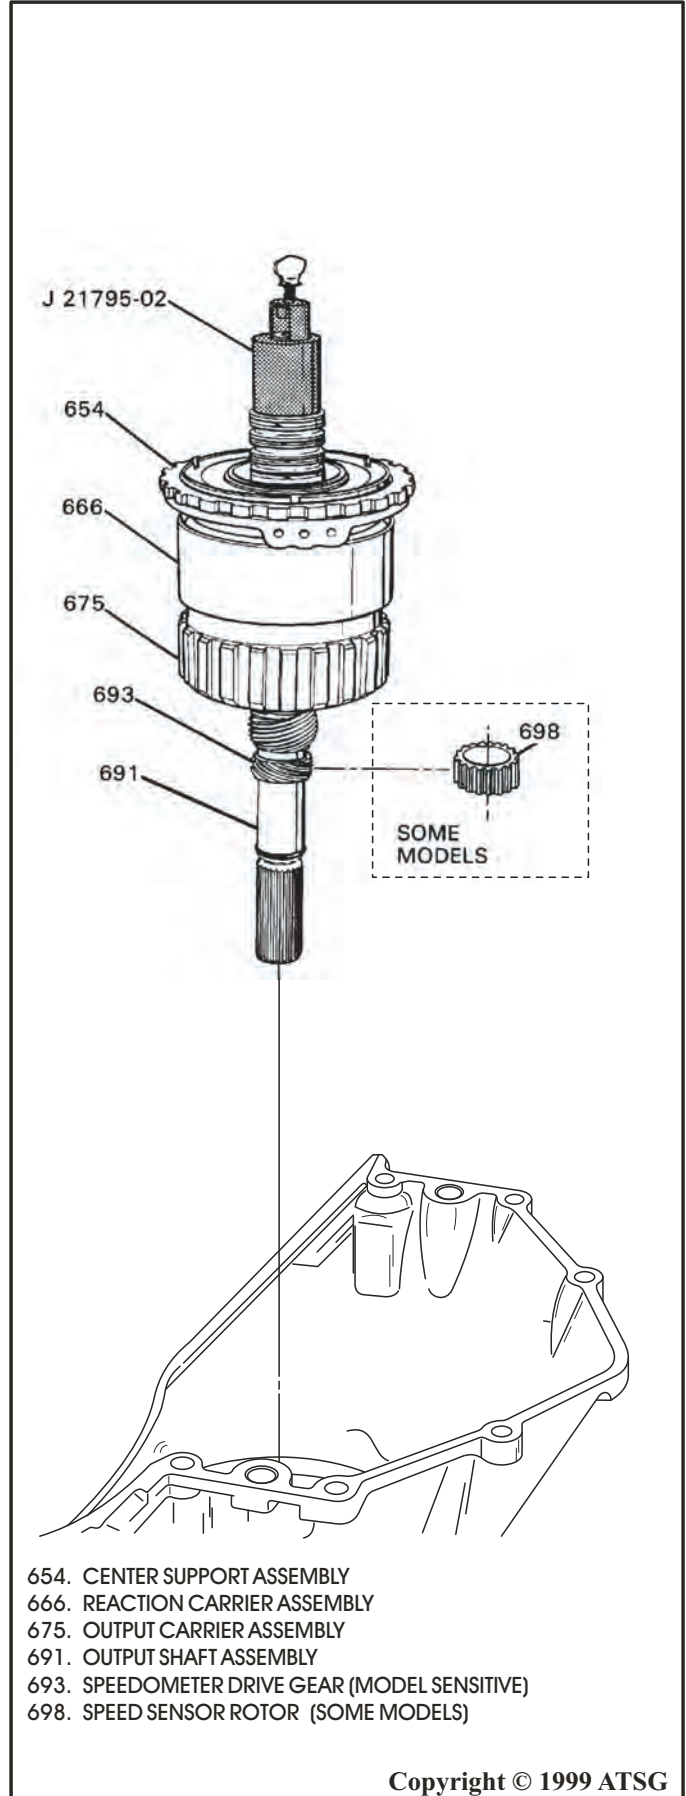

Figure 52
57. Install lifting tool J-21795-02 onto the gear train, and lift the entire gear train out of the transmission case, as shown in Figure 52.